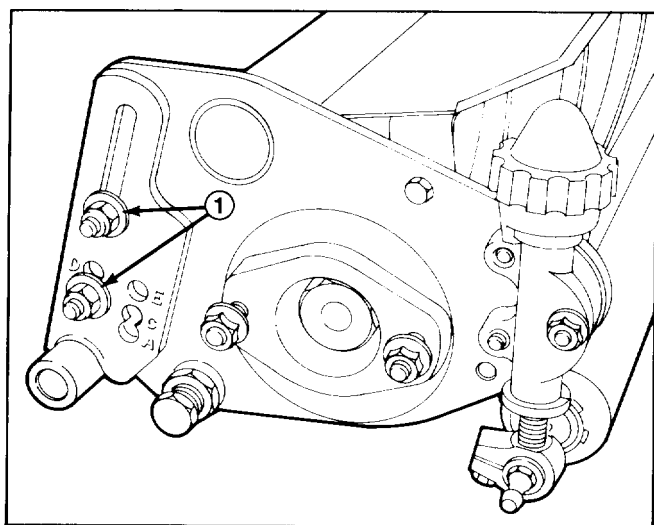

Figure 4
4. After positioning into correct height-of-cut hole position make sure right hand rear roller bracket capscrews are tightened securely (Fig. 4).